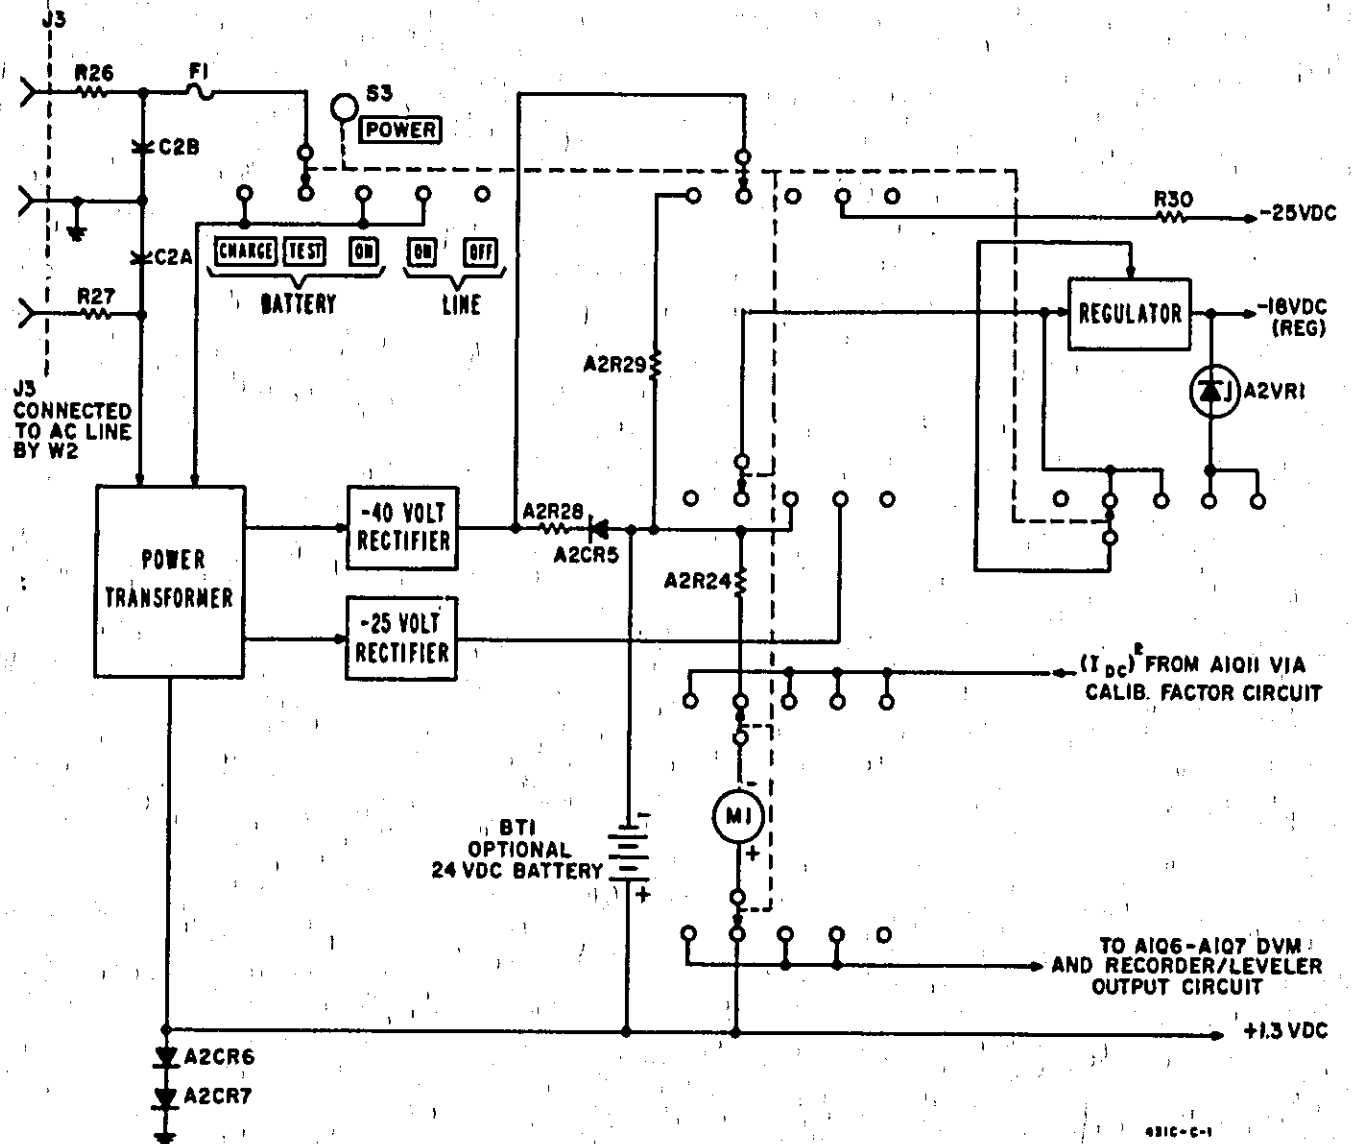

Figure 4-9. Power Switch Arrangement
**4-34.** A simplified schematic diagram of the power supply is shown in Figure 4-9. The power supply operates from either a 115- or 230-volt, 50 to 400 Hz AC source or from an optional 24 volt, 30 mA rechargeable battery. Three voltages and two current outputs are provided by the power supply. Regulated
4-37. A simplified schematic diagram of the power switch arrangement is shown in Figure 4-9. The